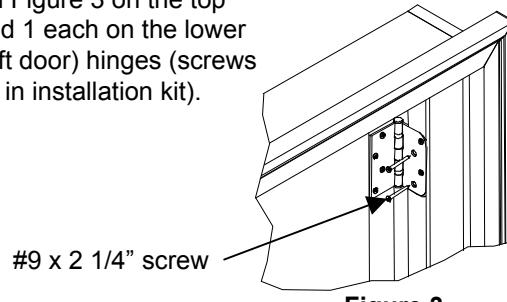

Figure 3
- 3 Install 2 screws at the location shown in Figure 3 on the top hinge and 1 each on the lower 2 or 3 (8ft door) hinges (screws included in installation kit).